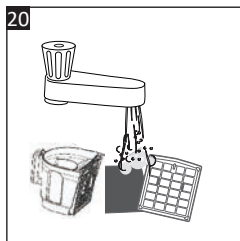

Fig. 20
6. Hold the sponge filter (22) with the dirty side down and rinse it under the tap with lukewarm water until the water runs clear (**Fig. 20**). Rinse the HEPA filter (23) in the same way.
7. Rinse the interior of the dust bin (11) with lukewarm water.